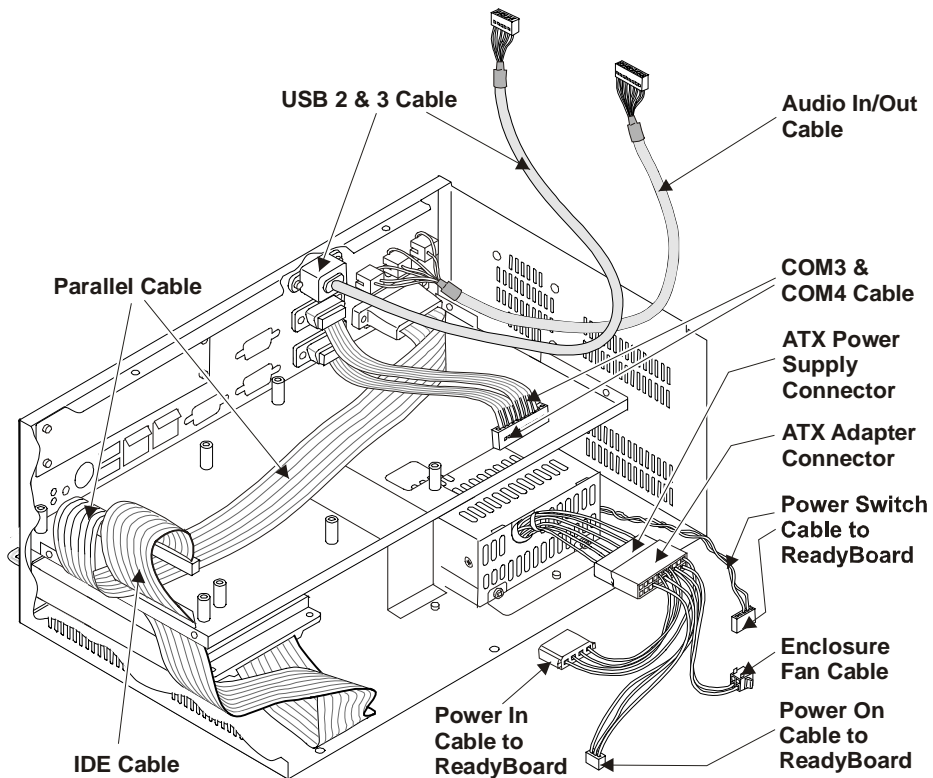

Figure 4-6. Separating Internal Cables
7. Lay the free ends of cables aside and out of the way for re-assembly later. See Figure 4-6.
4. Move the internal cables out of the way to allow installation of the ReadyBoard. See Figure 4-6.